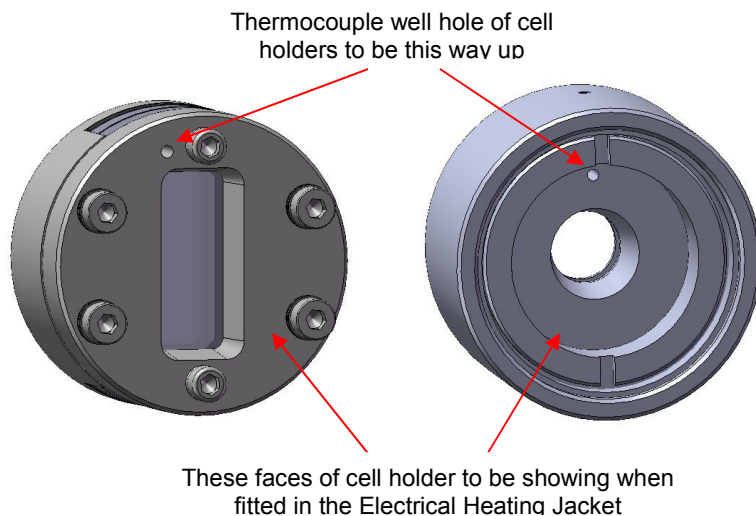

Fig. 2 GS20500 Static Liquid Cell and GS20600 Solids Holder
1. Unscrew the quick-fit nuts (1) and remove the sample cell retaining front clamp plate (2) of the Electrical Heating Jacket.
3. Slide the sample cell holder into the Electrical Heating Jacket making sure that the rectangular aperture (long dimension) of the GS20500 and GS20510 Static Liquid Cells is vertical. (See the orientation of both the liquid and solids cell holders from Fig. 2).
A small hole is drilled into each of the sample cell holders to form a thermocouple well. (See Fig. 2 and also please refer to the Static Liquid and Solid Cell holder's instruction manual to identify the position of the thermocouple well hole). This accommodates the junction end of the stainless steel sheathed Cr/Al (k-type) thermocouple for temperature monitoring using the 4000 Series™ Temperature Controller. The thermocouple is part of the Electrical Heating Jacket's power cable assembly.